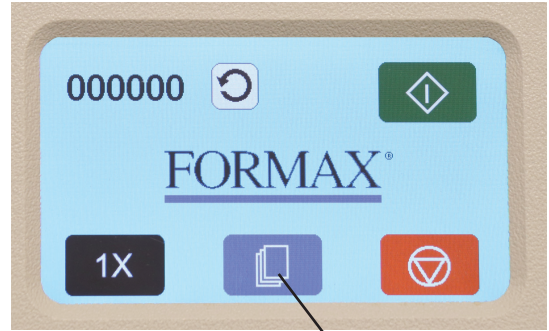

Fig. 23a
1. To test the motor and clutch operation and check the life count access the service mode. To access start by pressing the AutoBatch “” icon on the home screen (fig. 23a).